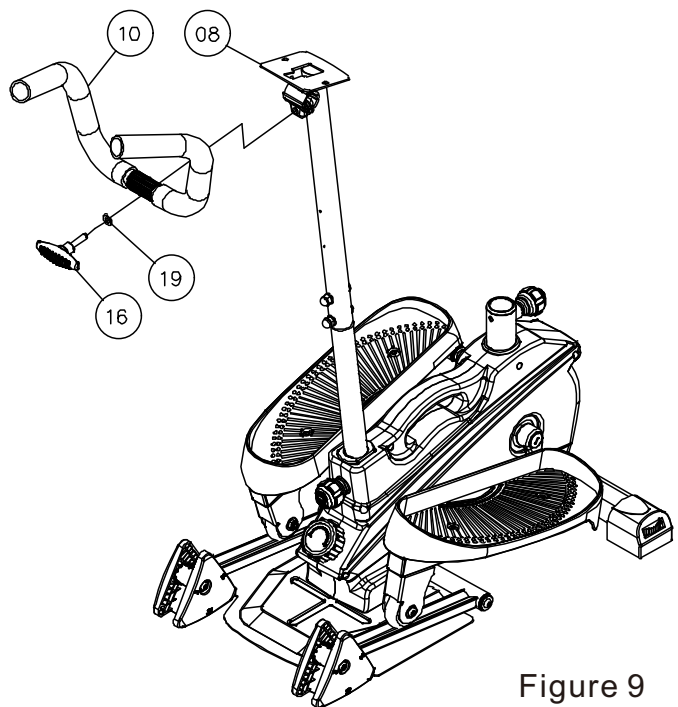

Figure 9
9. Use NO.16 T-shaped knob and NO.19 Flat gasket to fix the NO.10 Handle group onto the 08 The front riser assembly. The tightness of the T-shaped knob can be adjusted to change the angle of the handle. As shown in Figure 9: